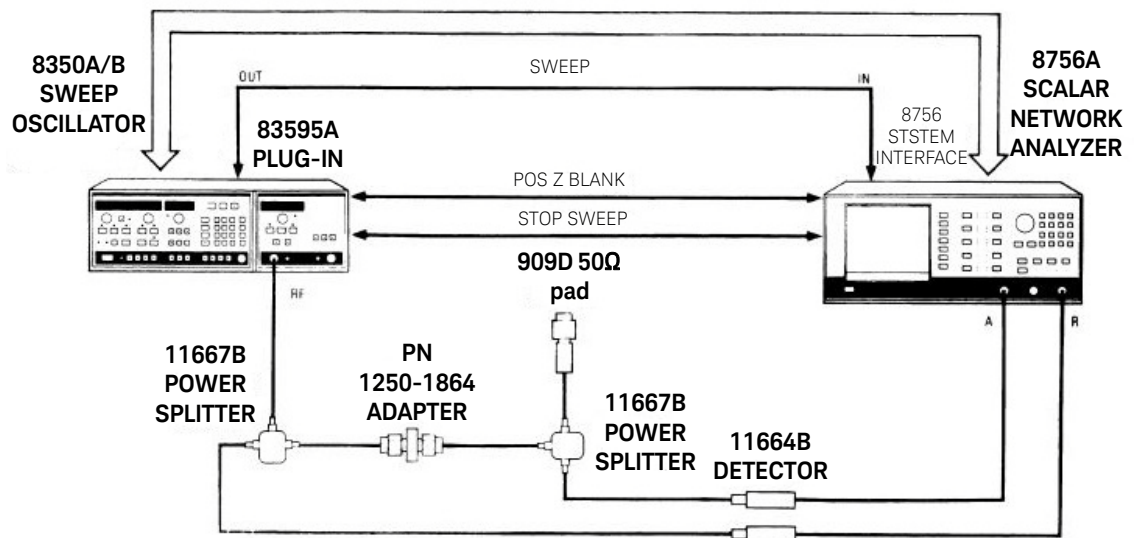

Figure 6 Output tracking test setup
- 1** Connect equipment as show in Figure 6. Press [PRESET] on the Keysight 8756A to preset both the Keysight 8756A and the Keysight 8350B (this will also turn the Keysight 8350B [MOD] on, and set the sweep rate to 200 ms). Allow 30 minutes warm-up.